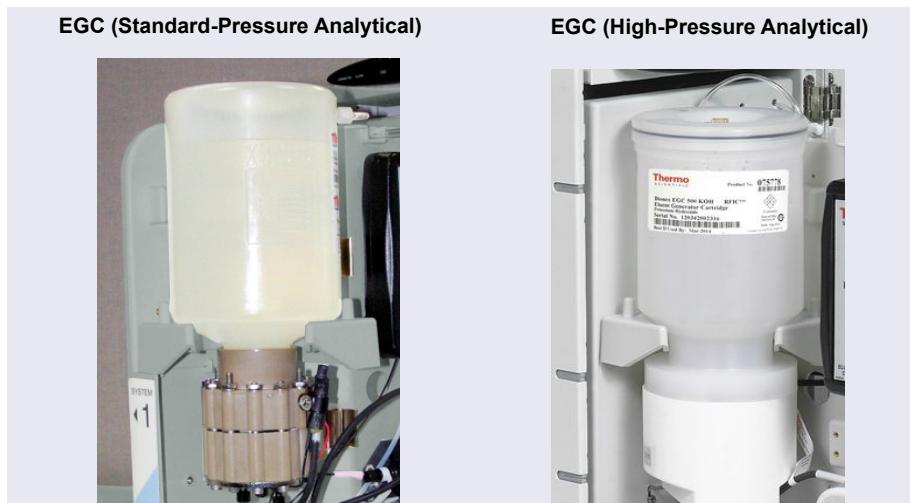

Figure 10-26. Analytical Dionex EGC Installed in Holder
9. Slide the Dionex EGC (with the electrolyte reservoir on top) into the holder in the EG (see Figure 10-26).